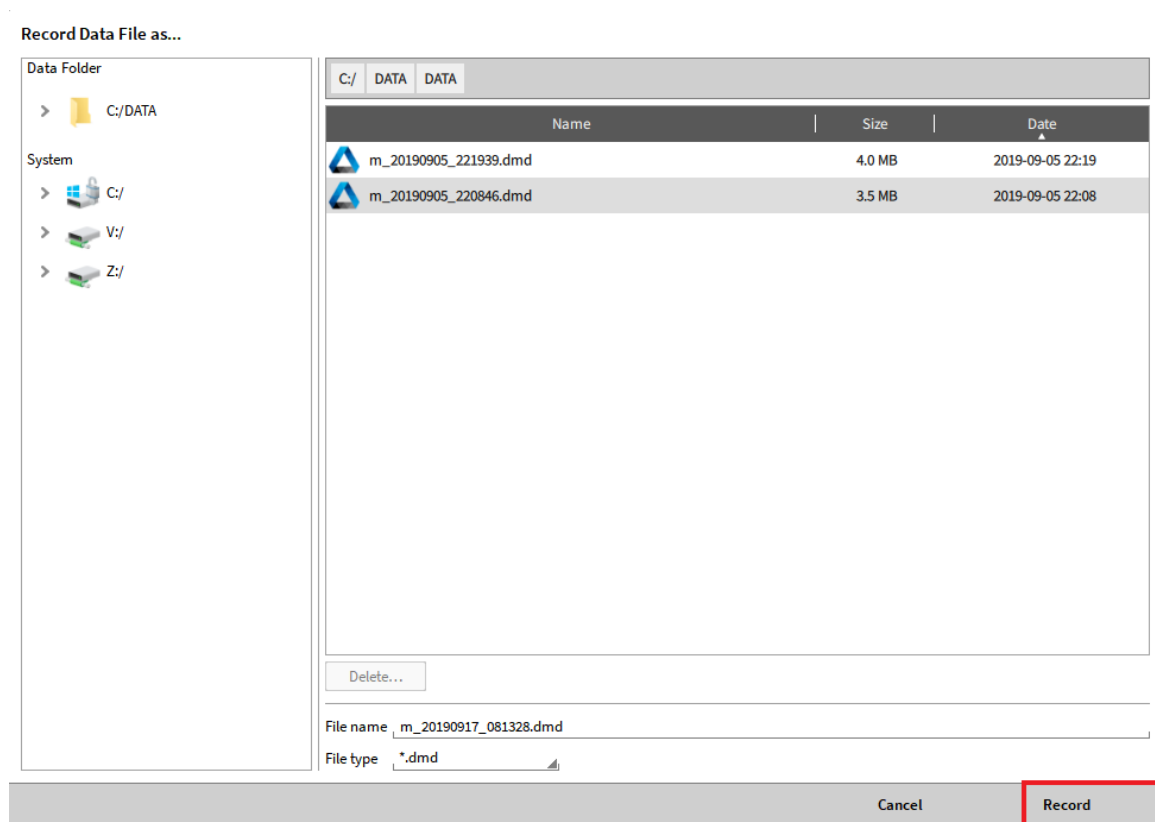

Fig. 6.4: Pop-up window to enter the file name before recording start
If this button is enabled, a pop-up window (see Fig. 6.4) will appear where the file name can be entered.
**Note:** The recording only starts by clicking on the *Record* button (marked red in Fig. 6.4) in the pop-up window after entering the file name.